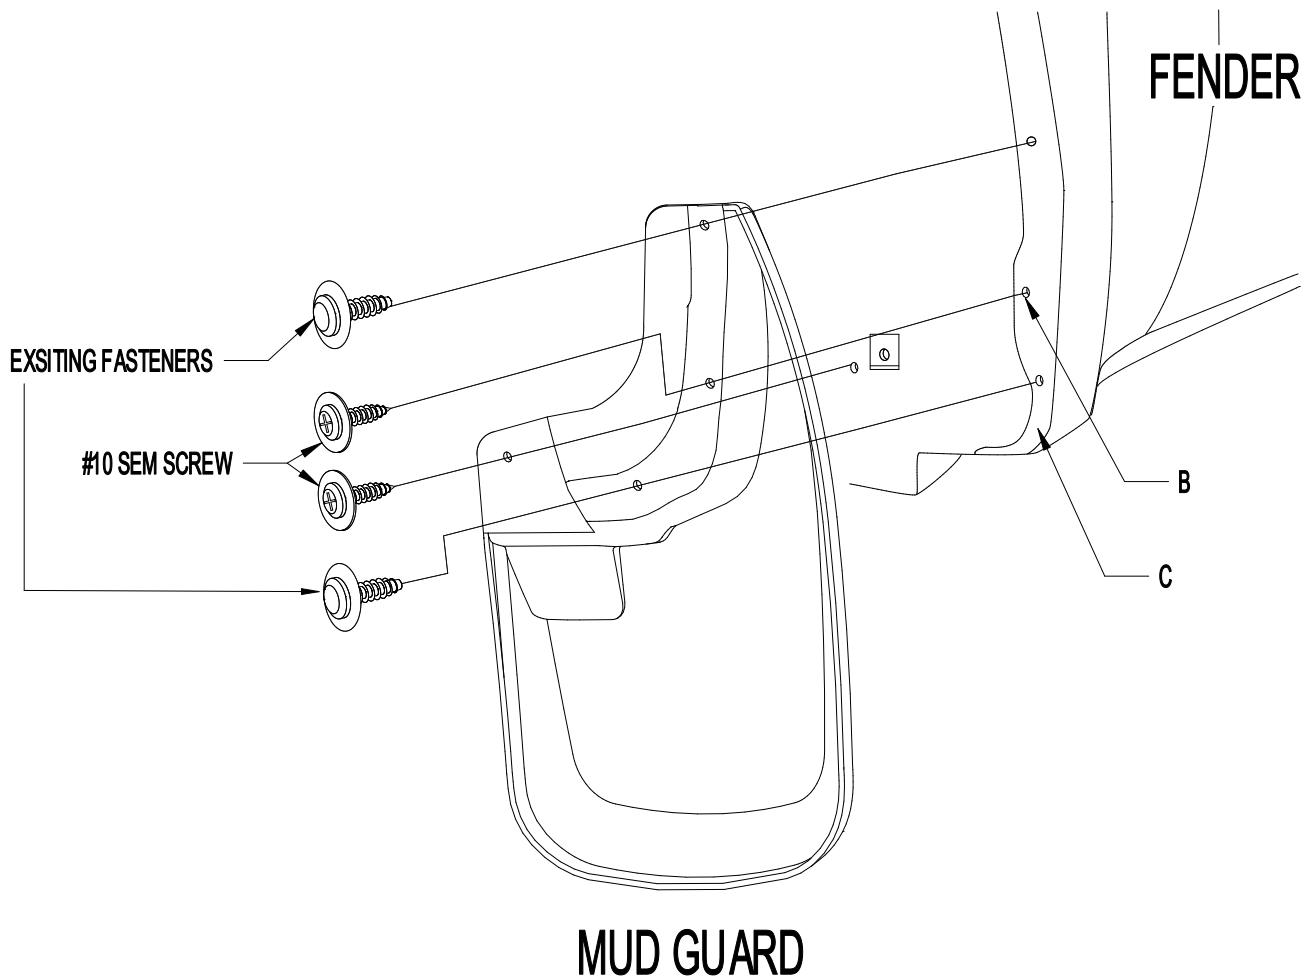

Figure 1
1. Remove the existing fasteners from locations A and C (Figure 1).